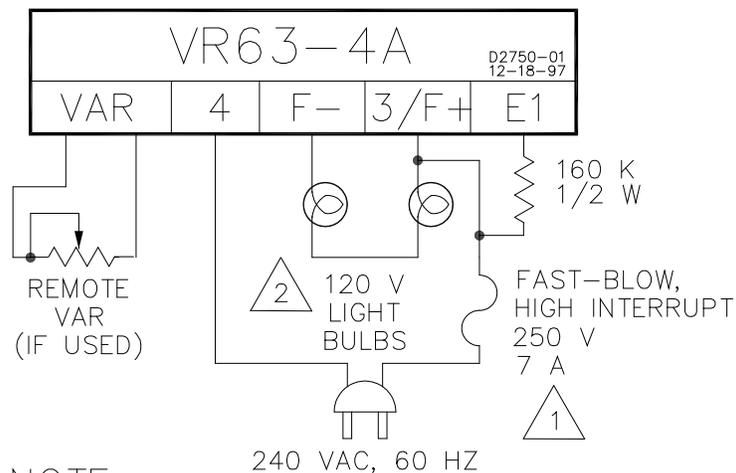

Figure 6. Operational Test
1. Connect the test setup as shown in Figure 6. Do not apply power. Ensure that the light bulbs are rated for 120 V and less than 100 W.